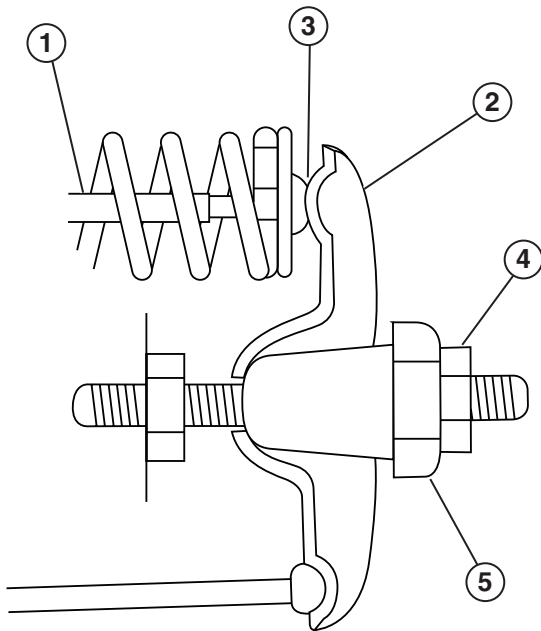

Figure 7-21
6. Insert a feeler gauge between the rocker arm and the push rod and check for clearance (see Figure 7-21). See Table 7-2 for valve lash specifications.